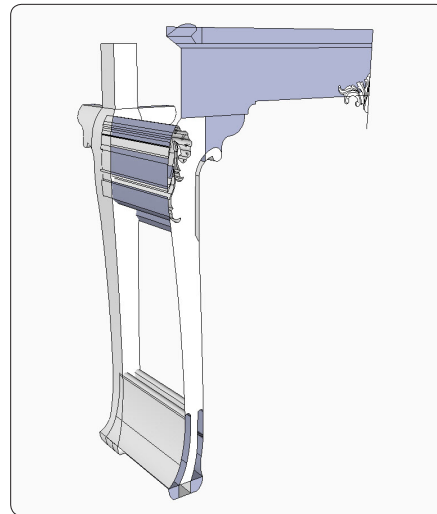

Figure 99. Push the traced-over carving shape through the cabriole leg.
Step 6 Use the Push/Pull Tool to push the carving shapes through the surface of the cabriole leg, as shown in Figure 99. Select all the graphics, and execute an Intersect Faces with Selection com-